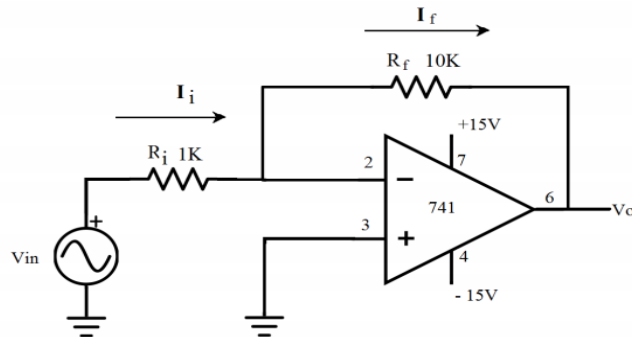

Figure: 1
1. Connect the circuit as shown in figure: 1.
1. Connect the circuit as shown in figure:1